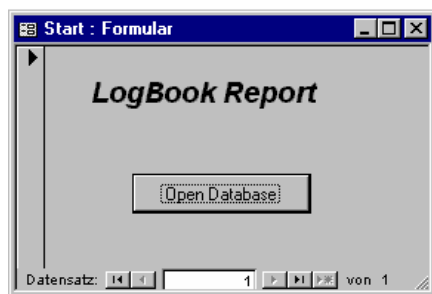

Fig. 15-1: LogBook file selection
- Select a logbook file (see Fig. 15-1).